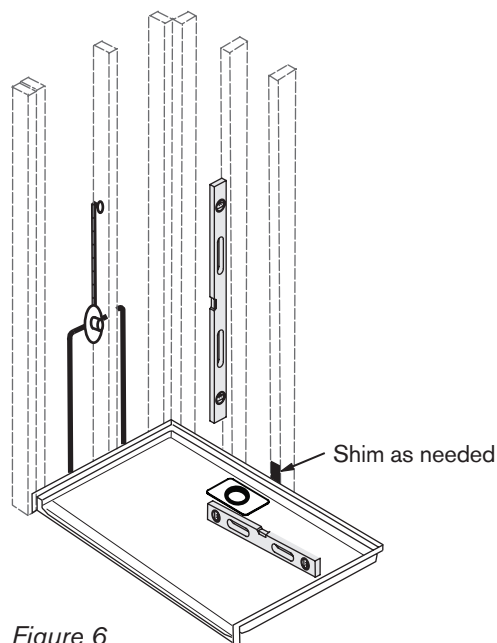

Figure 6
- 3 **DRY-FIT THE PAN:** Set pan in the pocket. You **MUST** either dry-fit the shower walls or use a level to ensure pan is level, without low spots, and positioned correctly. Shim if necessary. (Figure 6) See step 11.